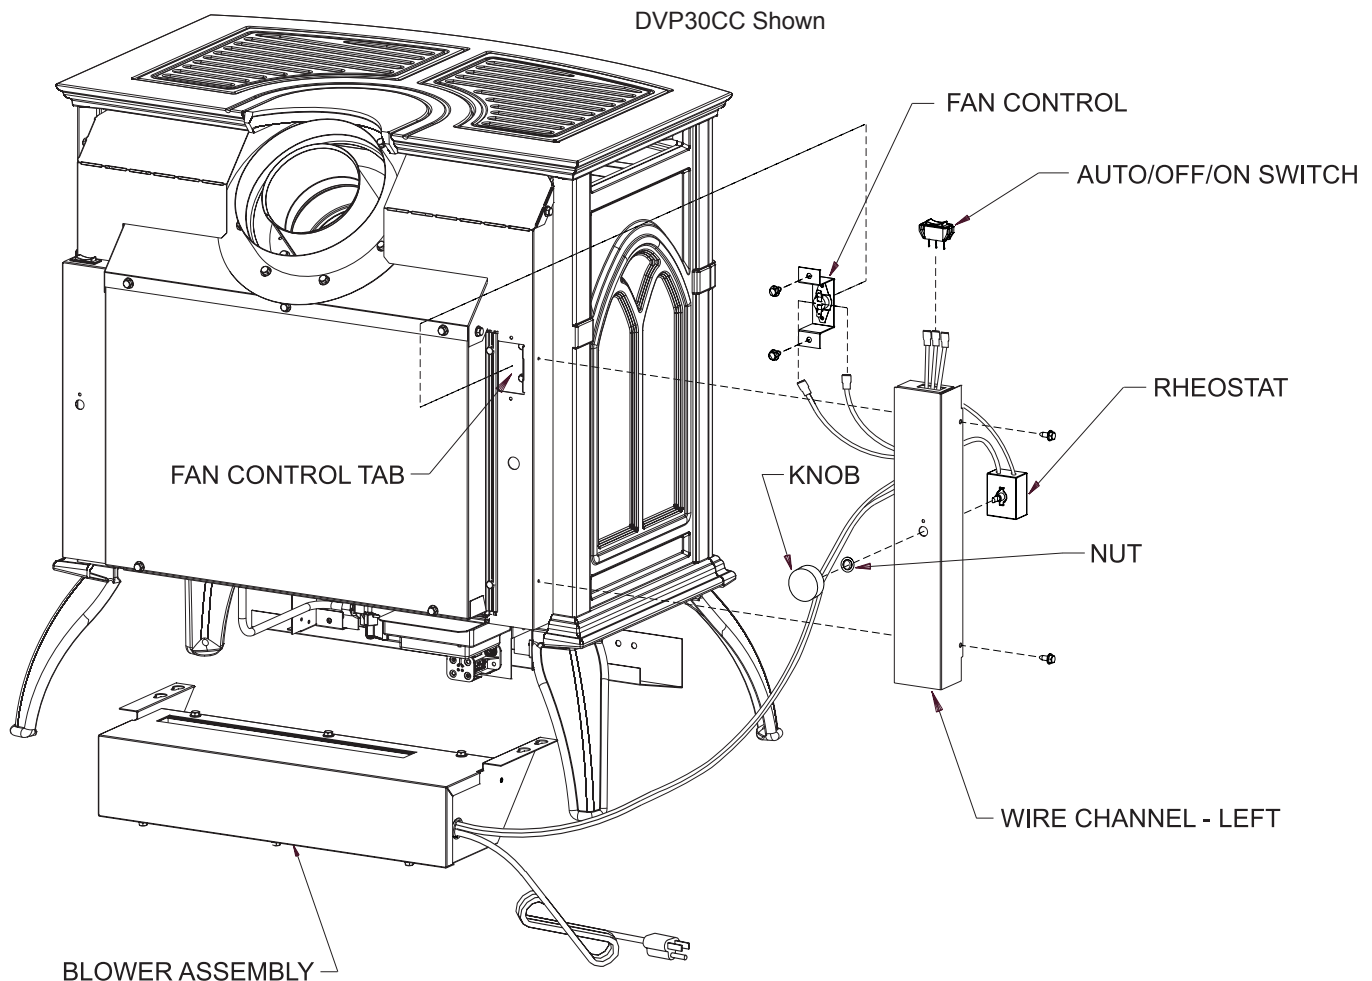

Figure 28 - DVP30CC Shown
- Remove wire channel-left from appliance by removing 10 x 1/2" screws on left side of the appliance. **Note:** Some units require a new wire channel. If Rheostat mounting holes are missing from part removed from unit, discard wire channel removed from unit and continue installation with appropriate wire channel shipped with blower. **See Figure 28.**
- Bend the fan control tab, located on the left side of the back of the unit, inward toward the unit. See Figure 28. Be sure tab is bent at least 90 degrees to allow fan control bracket to slide into slot.